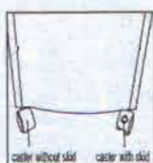

fig.1
**Note:** Casters with skid are for the two front holes and casters without skid are for the two back holes at the bottom of the unit.(shown as fig.1)